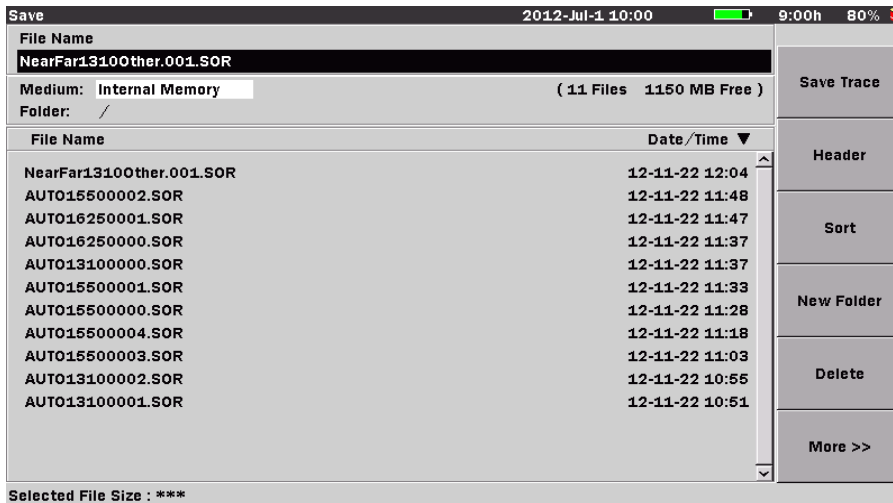

Figure 6-25: Save screen
12. If **File Save Verify** is selected on the OTDR (Construction) Setup screen (see Figure 6-23 on page 6-61) the Save screen appears (see Figure 6-25 on page 6-64). Review the file name and edit if desired, then press **Save Trace (f1)**. The Save screen closes and Construction mode advances to the next test.
Use the Save screen (see Figure 6-25 on page 6-64) to delete any data files stored in the internal memory or on a USB memory stick. You can delete a single file, multiple files or all of the files in the current directory.
1. At the completion of a Construction mode test, the Save screen appears (see Figure 6-25 on page 6-64).